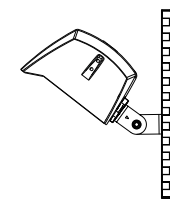

figure 5.4
Step 3:Loosen screw; Adjust fixture angles as per actual demands and tighten screws later.(figure 5.4), Tips:Angles of the fixture is adjustable